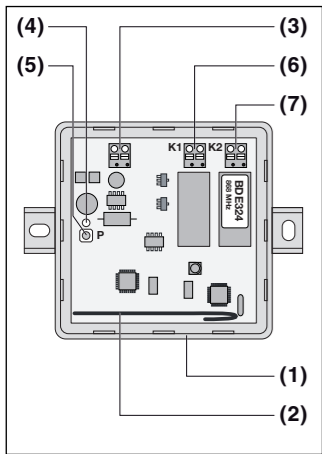

Fig. 1
2.1 Receiver BDE324 (fig. 1)
3.1 Connecting the receiver (fig. 1, 2 and 3)
2.1 Mottagare BDE324 (fig. 1)
3.1 Mottagarens anslutning (fig 1, 2 och 3)